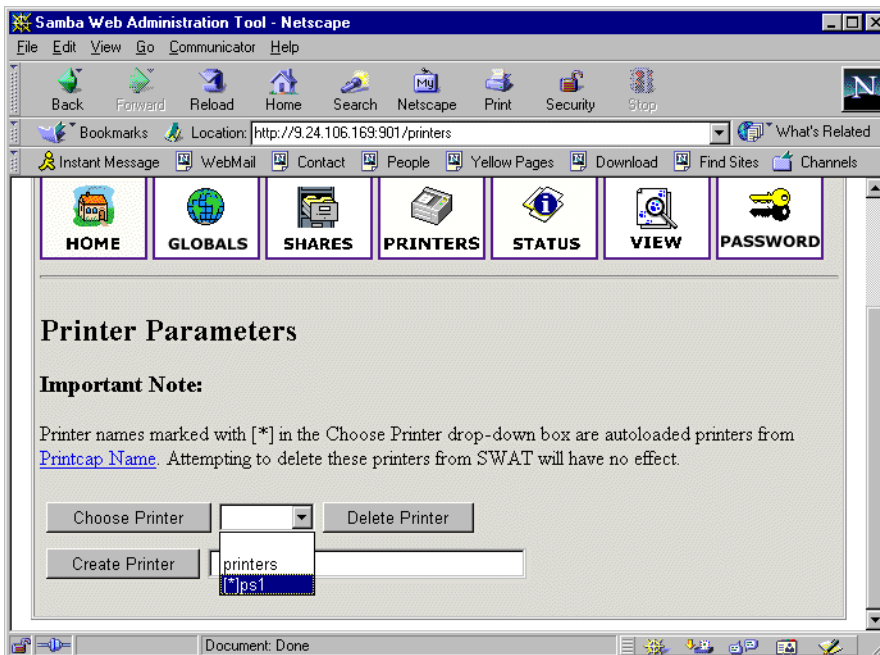

Figure 4-12 Selecting printer
1. Select printers from the list, as shown in Figure 4-12.